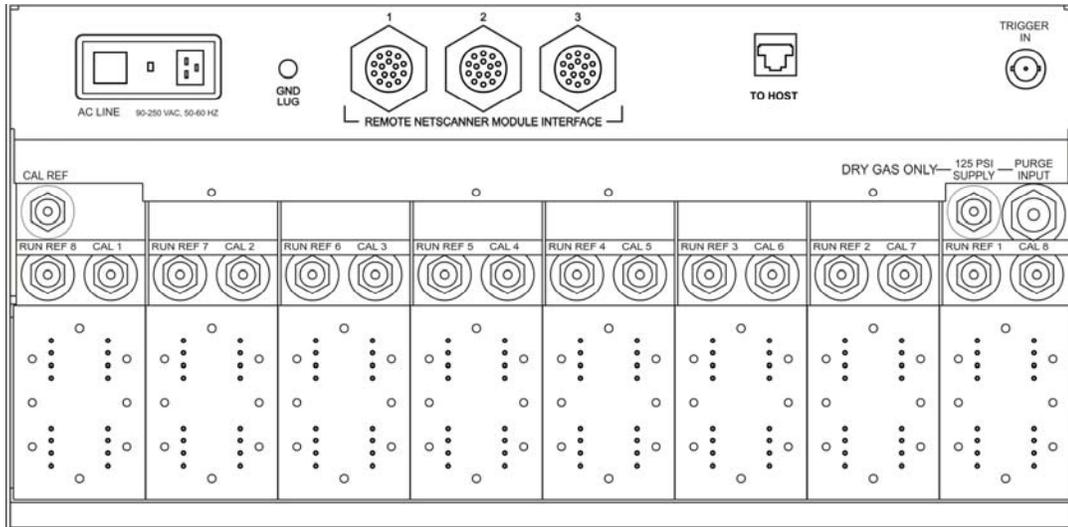

Figure 2.2
Pneumatic connections for the sixteen (16) measurement inputs of the Model 9816 Intelligent Pressure Scanners installed in the **98RK-1 Scanner Interface Rack** may be found either on the backplane of the **98RK-1** chassis or on the 9816 front plate, depending on the particular configuration you ordered. Additional control, purge, and calibration inputs are found on the rear of the **98RK-1**. The function of each input port is clearly engraved or printed next to each input (see **Figures 2.2, 2.3 and 2.3a**, next page). Connections are through bulge tubing, compression fittings, or special user-supplied fittings on the tubing plate. All pneumatic inputs to these modules should contain dry, non-corrosive gas only.
The 98RK-1 chassis requires an 80 psig minimum (125 psig maximum) dry **air** (or inert gas) supply which is used to shift the 9816 internal calibration valve (in each scanner) between its different positions. Each 98RK-1 contains a fitting marked “**SUPPLY**” for this input (see **Figure 2.2**, previous page). Internal solenoid valves in each 9816 scanner direct this supply pressure to the proper control port on the calibration valve as required by instrument commands. The absence of sufficient supply air to the module will prevent the calibration valve from shifting into requested positions (i.e., **RUN**, **CAL**, **PURGE**, or **LEAK-CHARGE**). The pneumatic input manifold (on the rear of the chassis) contains an additional two transducers to read the supply and purge air pressures.